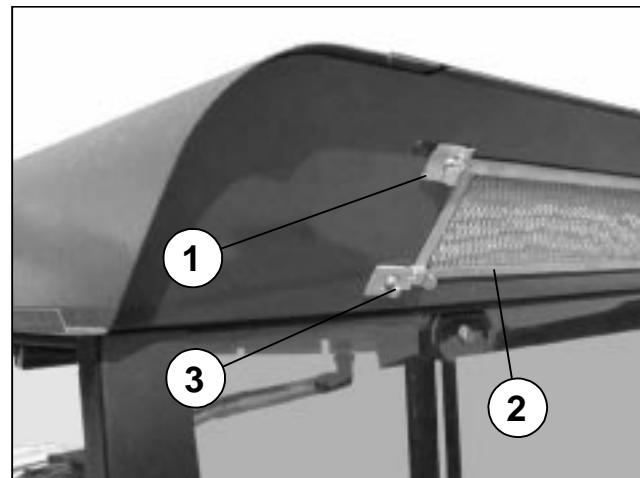

FIG. 3
BLOWER FILTER: The filter is a 3 phase filter, consisting of a paper element, an activated carbon layer and a micron element. (See FIG.3.)
To remove the Blower Filter, Open the (4) Filter Retainers and pull the Filter out of the opening. See FIG. 3. Replace the Filter and close the Retainers as shown.